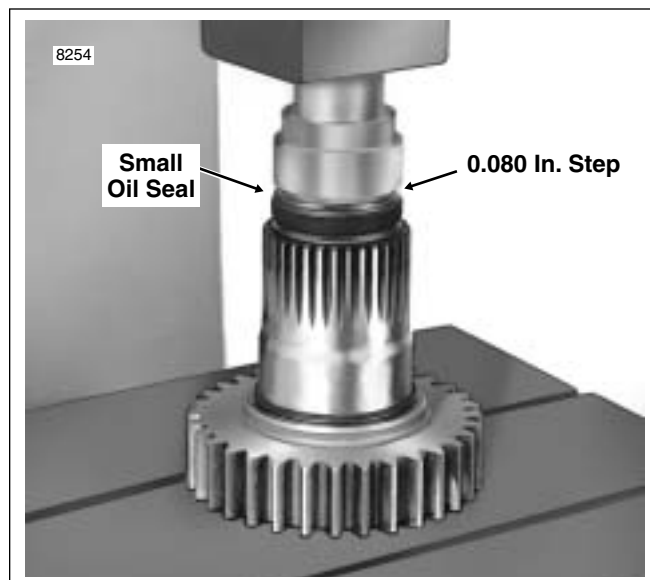

Figure 7-32. Press Small Oil Seal into Main Drive Gear
11. Apply pressure until shoulder on tool makes light contact with the gear. See Figure 7-32. Remove tool.